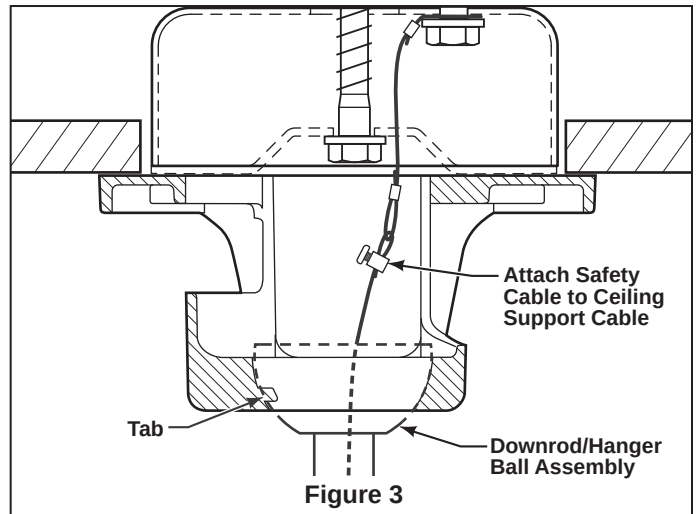

Figure 3
5. Carefully lift the fan assembly and seat the extension pole/hanger ball/horizontal tube assembly on the hanger bracket that was just attached to the ceiling joist. Be sure the groove in the ball is lined up with tab on the hanger bracket. (Figure 3)
6. Attach the safety cable to ceiling support cable. Slide cable clamp onto safety cable (from fan). Place the end of cable through the loop of ceiling support cable. Pull as much cable through loop as possible. Feed end of cable into clamp hole and firmly tighten screw (Figure 3). Cut off excess safety cable.